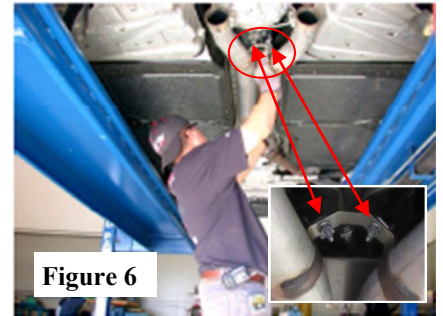

Figure 6
1. Re-install the H-pipe assembly in the opposite order of removal and using the original hardware, reinstall the spring hanger. Hand tighten the flange for now. (See Fig. 6)